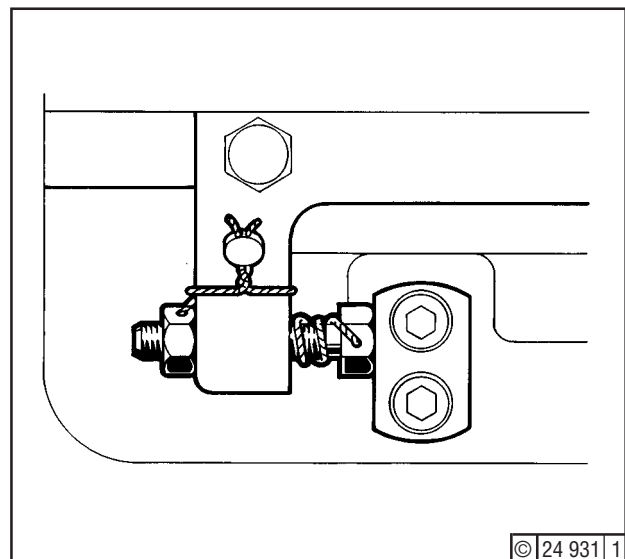

Fig. 9
7. Remove tools (Fig. 7). Move linkage in the direction "Stop" until one or more stop screws abut at points C12 and C13 (Fig. 9).